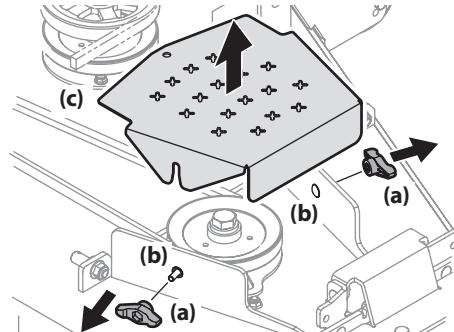

Figure 33
- Remove the wing knobs (a) from the carriage screws (b) securing the belt covers (c) to the deck. Remove the deck covers. See Figure 33.
- Using the wing knobs (a) and carriage screws (b), secure the belt covers (c) to the deck. See Figure 33.